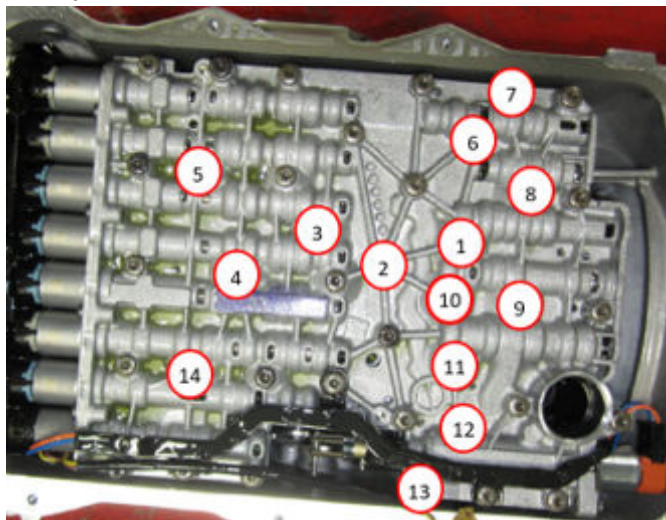

Fig. 11
19. Remove the valve body assembly bolts in the order shown and remove the valve body Fig. 11.